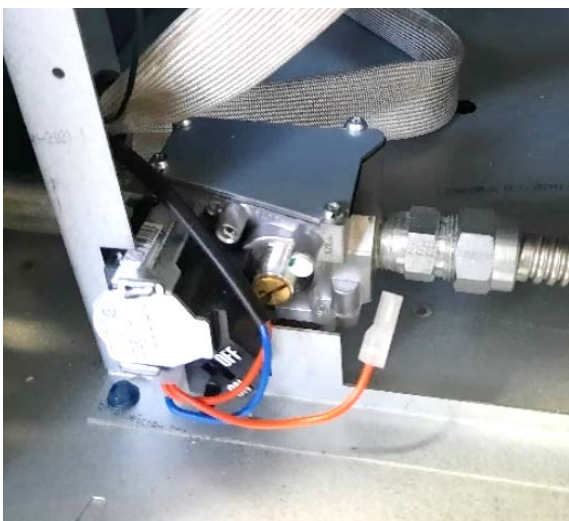

Figure 7
- Remove the gas valve cover. Disconnect the wiring terminals, then disconnect the inlet and outlet gas valve connections and remove the gas valve. Refer Figure 7.